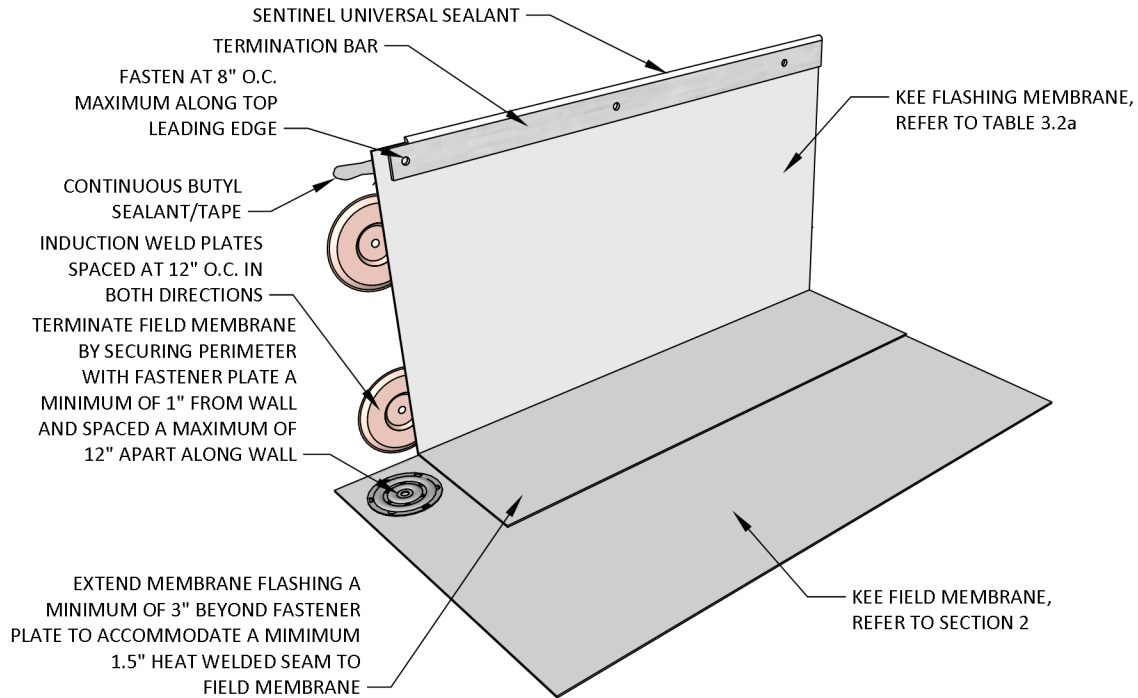

Figure 3.2a Induction Welded KEE Flashing Membrane at Wall/Curb with Horizontal Perimeter Fastening
- Install fasteners and induction welding plates to the vertical substrate a maximum of 12 in on-centers in both directions. Refer to Table 3.2b and Figures 3.2a and 3.2b.
- Install butyl water cutoff, fasten and seal the leading edge of horizontal and vertical flashings at all terminations. Refer to Figures 3.2a through 3.2b.
- Cut a minimum of three (3) sample welds in each suspect area.